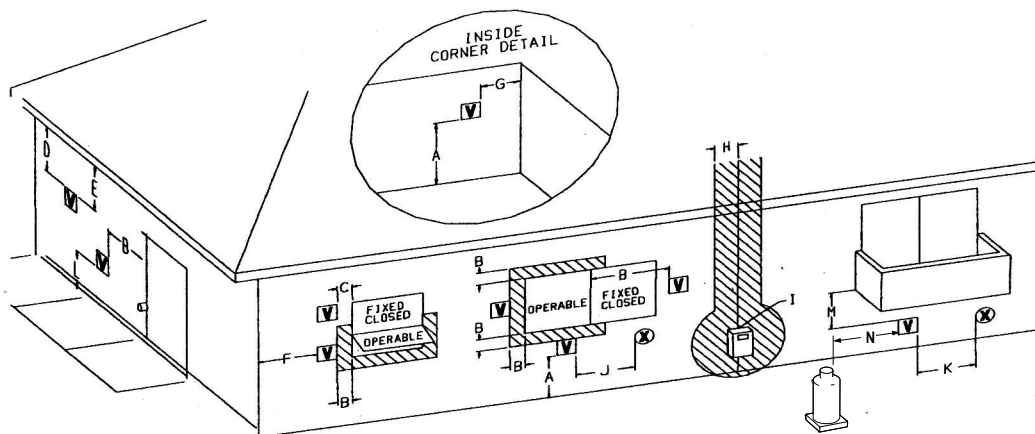

Figure 20.
- The horizontal termination cap must maintain a 3" clearance to any overhead combustible projections 2 1/2" or less. It must also maintain 12" clearance from projections exceeding 2 1/2". See fig. 20.